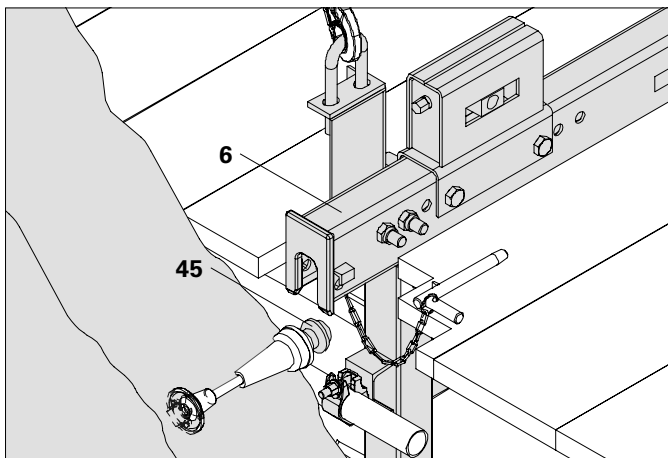

Fig. B1.21
- Have the securing bolts (6.4) been completely pulled out? (Fig. B1.21)
4. Raise platform and pivot over the Scaffold Mounting Rings. (Fig. B1.21)